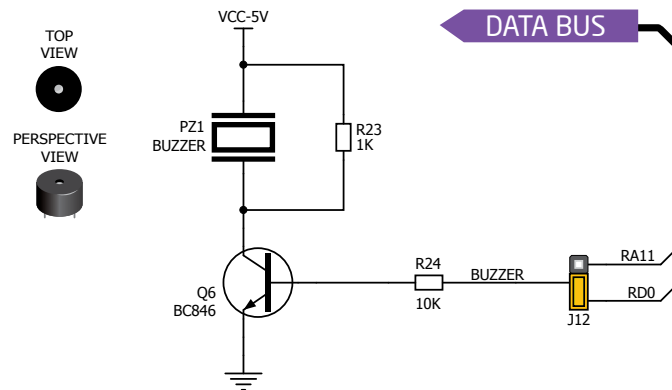

Figure 19-1: Piezo buzzer connected to RDO microcontroller pin
**Piezo electricity** is the charge which accumulates in certain solid materials in response to mechanical pressure, but also providing the charge to the piezoelectric material causes it to physically deform. One of the most widely used applications of piezo electricity is the production of sound generators, called piezo buzzers. **Piezo buzzer** is an electric component that comes in different shapes and sizes, which can be used to create sound waves when provided with analog electrical signal. EasyPIC™ v7 for dsPIC30® comes with piezo buzzer which can be connected either to **RDO** or **RA11** microcontroller pins, which is determined by the position of **J12** jumper. Buzzer is driven by transistor **Q6** (Figure 19-1). Microcontrollers can create sound by generating a PWM (Pulse Width Modulated) signal - a **square**